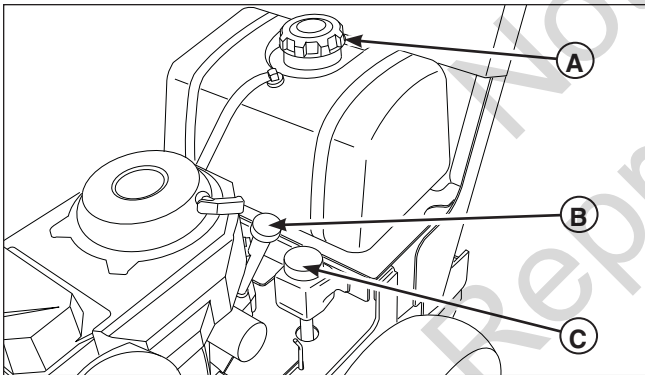

Figure 1. Pre-start Checks
- Check that crankcase is filled to full mark on the engine oil dipstick (**B, Figure 1**). See the engine Operator's Manual for instructions and oil recommendations.